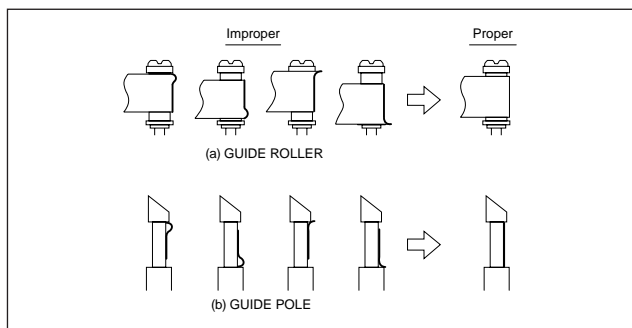

Fig. 3-2-2a
- To prevent damaging the alignment tape in the compatibility adjustment, prepare a cassette tape (for self-recording/play-back), perform a test on it by transporting it and making sure that the tape is not bent by the tape transport mechanisms such as in the guide rollers.(See Fig.3-2-2a)
- After adjustment, confirm that the tape wrinkling does not occur at the roller upper or lower limits. (See Fig. 3-2-2a.)